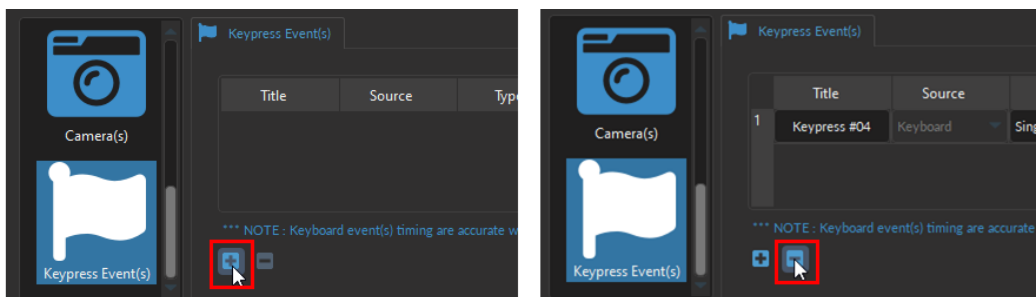

Figure 9.28: Adding and Removing Keypress Events
To add a new **KeyPress Event**, select the + sign at the bottom of the window (Fig. 9.28, left). To remove a Keypress, use - button (Fig. 9.28, right).
- **NOTE:** Selecting the + button (without clicking the *Add* button or the *Close* button of the *Channel Configuration* window) will **automatically** add the Keypress Event channel at the **bottom** of the Acquisition View window, below any pre-existing channels (Fig. 9.28).